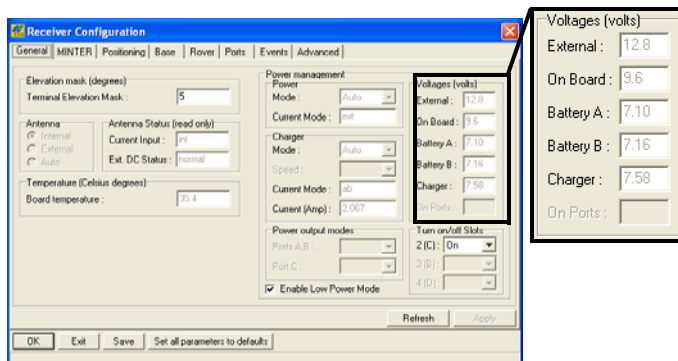

Figure 2-12. View Voltages Information
6. View the *Voltages* information (Figure 2-12 on page 2-13).